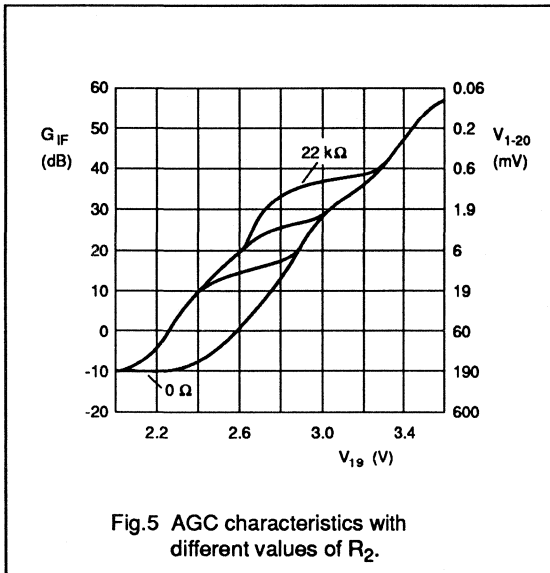

Fig.5 AGC characteristics with different values of R_2 .
- The starting point of tuner AGC can be adjusted by the resistor at pin 2. Fig.5 shows the AGC characteristic.